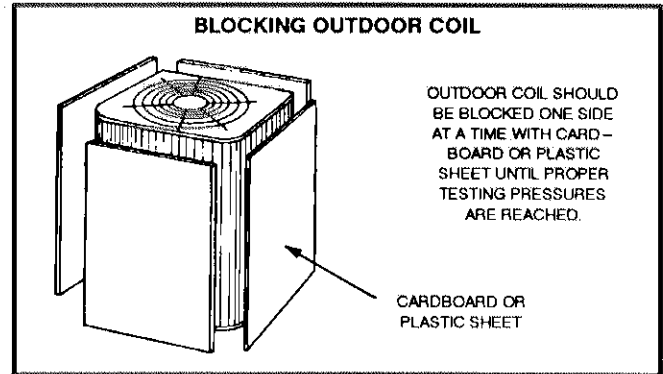

FIGURE 8
- 6— If ambient temperature is less than 60°F (15°C), air flow might need to be restricted to achieve pressures in the 200–250 psig range (See figure 8). These higher pressures are necessary for checking charge. Block equal sections of air intake panels, moving obstructions sideways as shown until liquid pressure is in the 200–250 psig range.